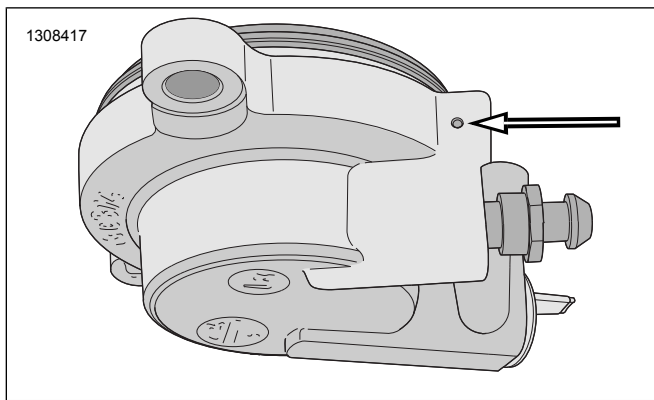

Figure 7. Identifying Mark Location
3. **Kit 91500093A:** See Figure 7. Install identifying mark in secondary clutch actuator.